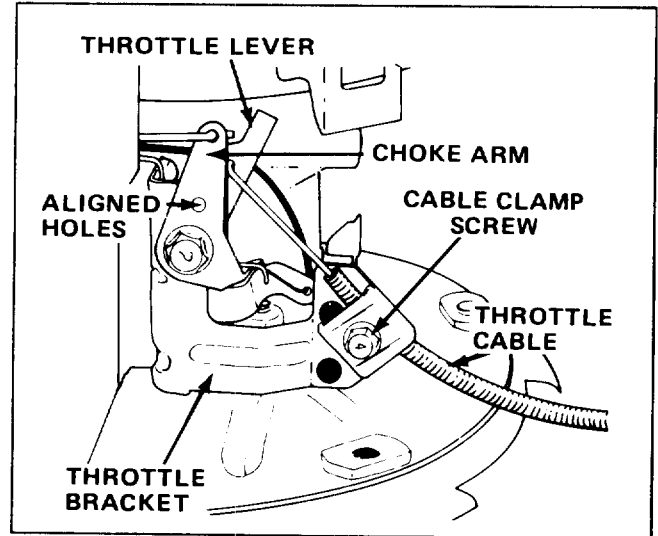

Figure 10
3. Loosen cable clamp screw until throttle cable slides (Fig. 10).
4. Check to see if holes in choke arm and throttle bracket are aligned (Fig. 10). If not, follow adjustment procedure in step 5.
5. ADJUSTMENT—Use a small diameter pin to align holes in choke arm and throttle bracket. Push throttle cable until throttle lever contacts choke arm (Fig. 10). Tighten cable clamp screw to lock adjustment in place. Remove pin.